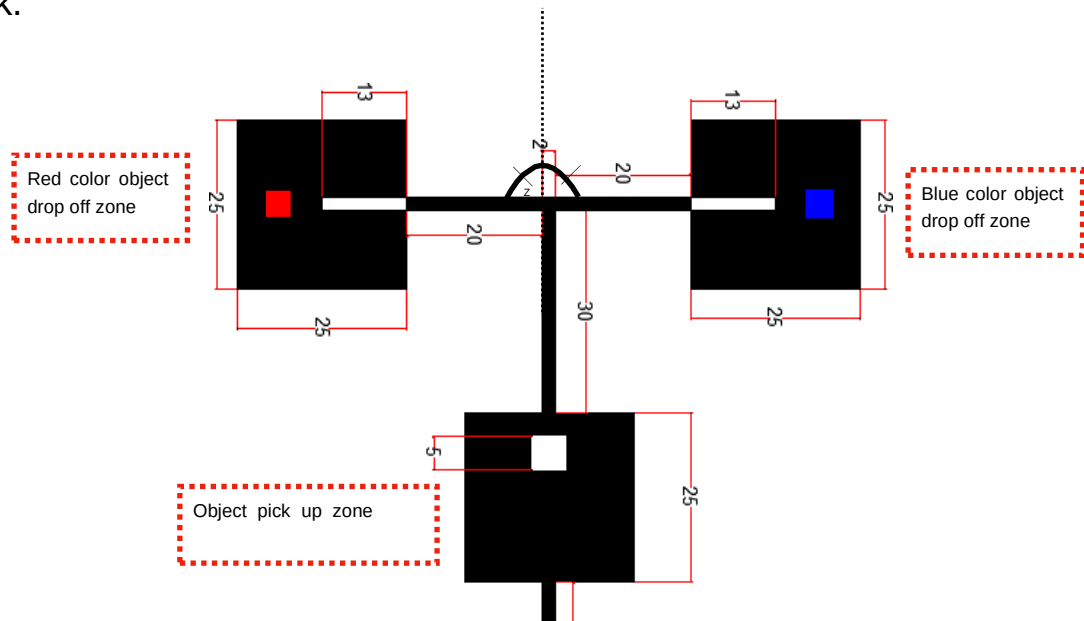

FIGURE 5: FINISHING AREA IN LEVEL 2 (ALL MEASUREMENTS ARE IN CENTIMETERS)
- A **solid black square** (similar to the starting block in Figure 5) will indicate the **object pick-up area**.
- **Figure 5** provides a **simplified summary** of the pick-and-place competition. It is for reference only and does not represent the actual playing field.